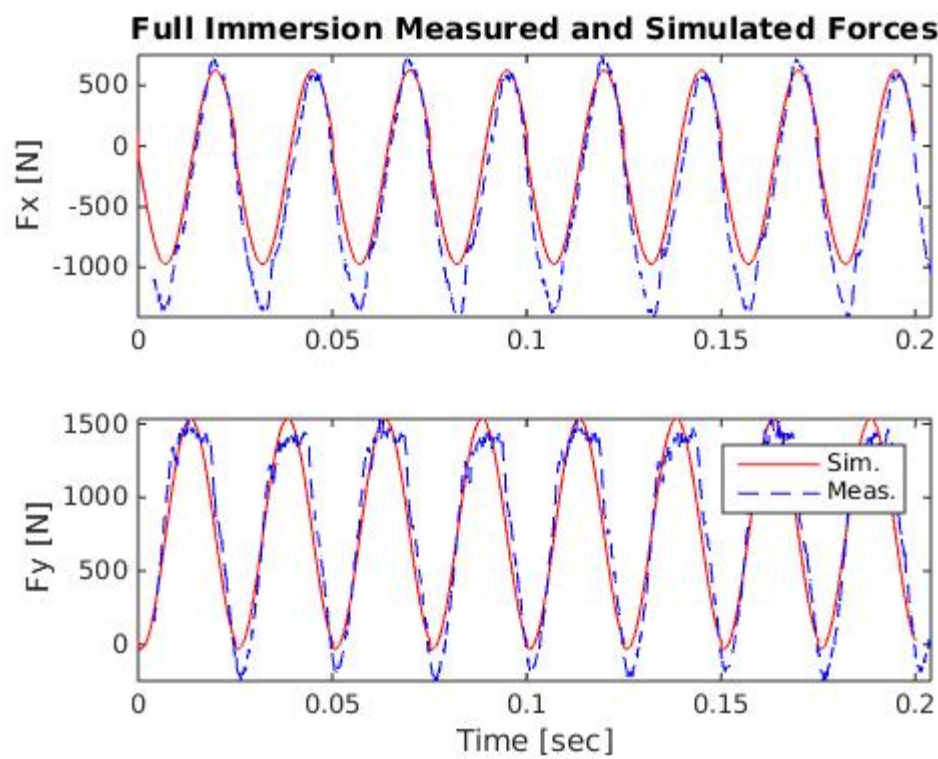

Figure 4: Full Immersion Measured and Simulated Forces
- Figure 4 is the graph of F_x and F_y of the full immersion simulation